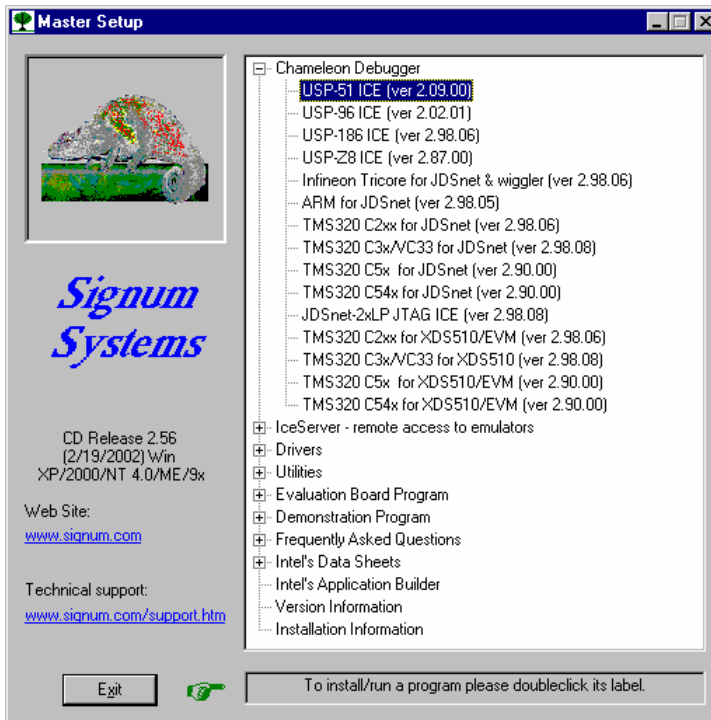

FIGURE 1 Chameleon Master Setup dialog box.
1. Insert the *Development Tools for Microsoft Windows* CD into your CD-ROM drive. In the Master Setup dialog box, select Chameleon Debugger and double-click USP-51 ICE, as shown in Figure 1.